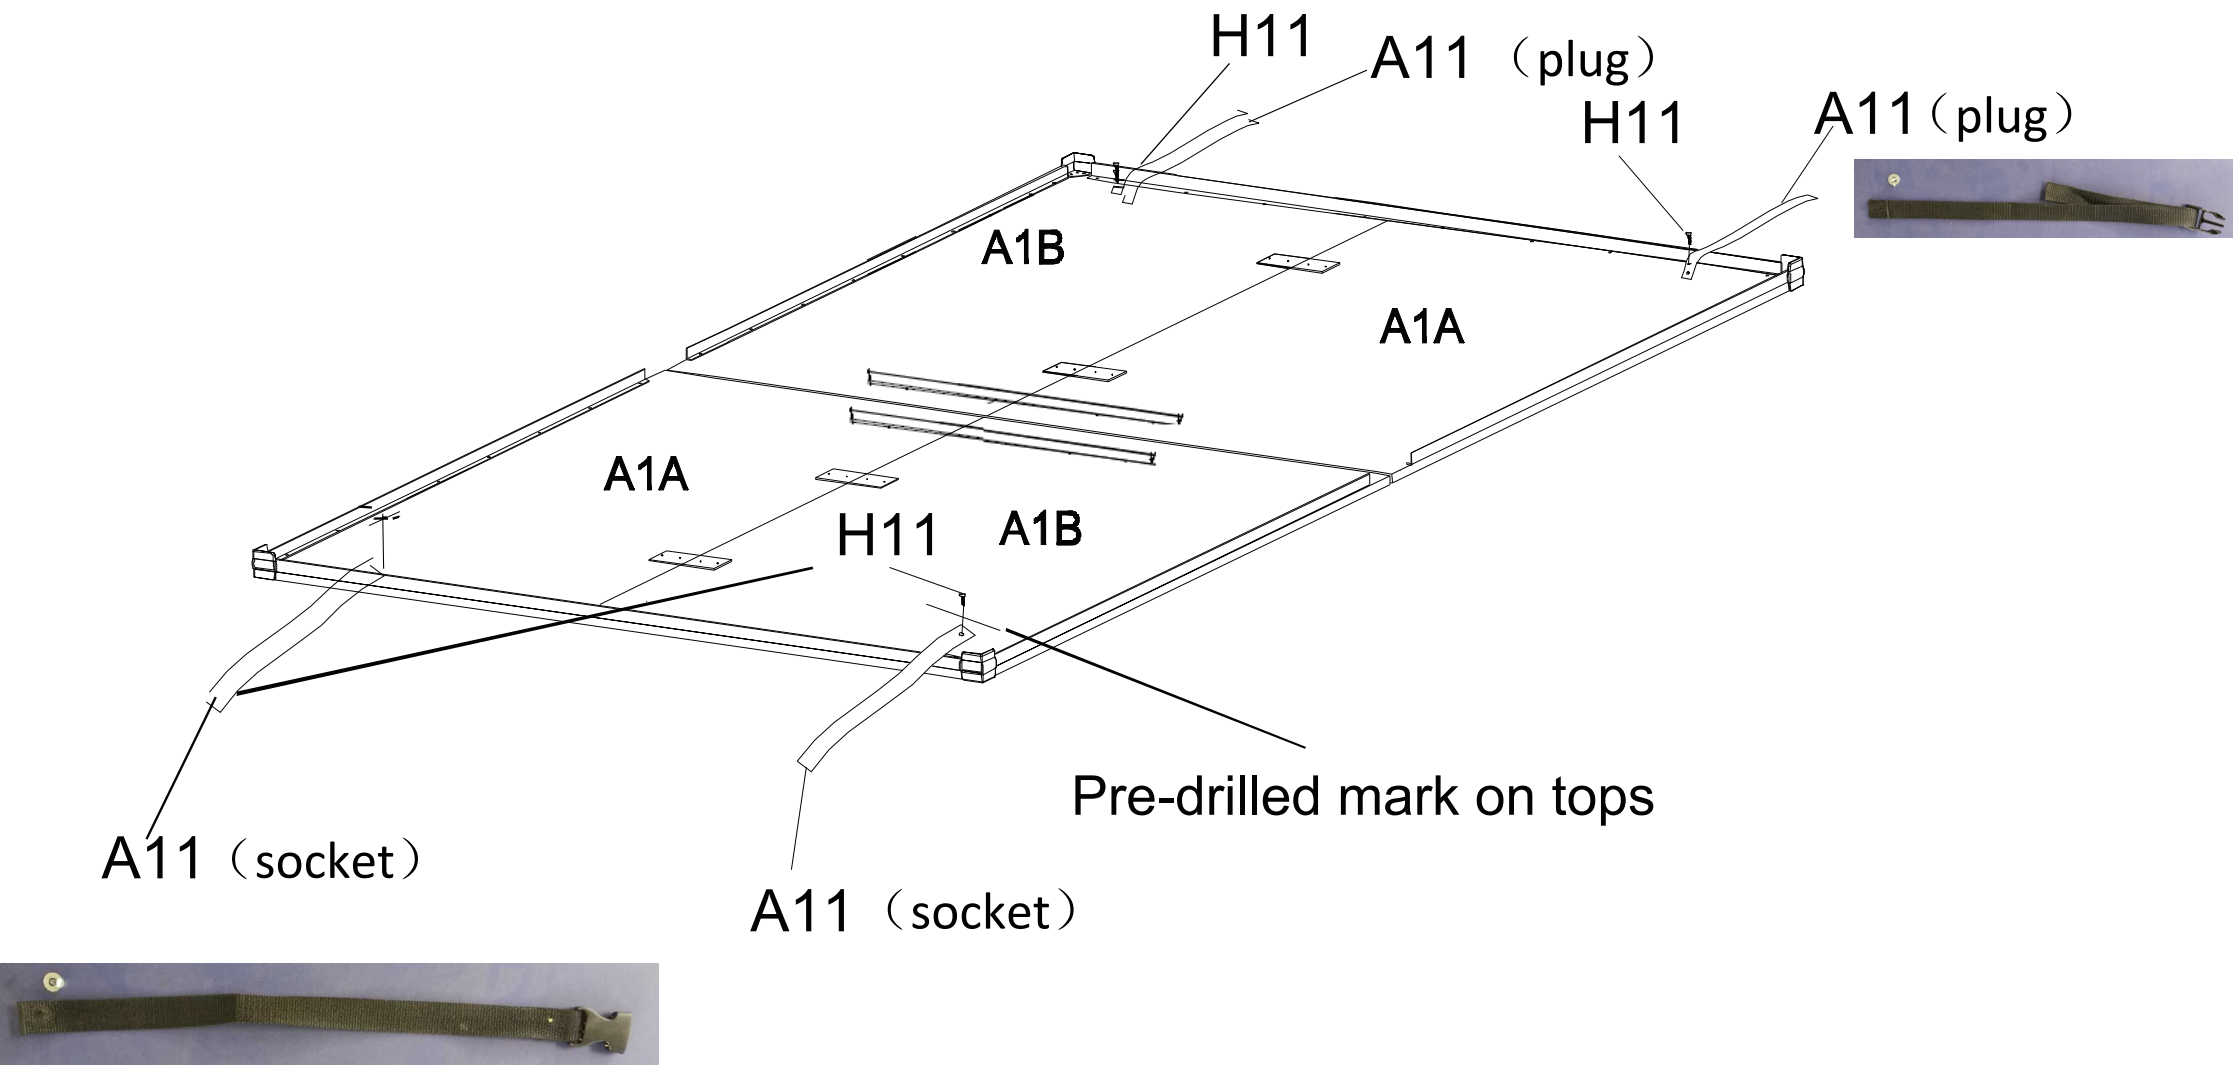

FIGURE 5
STEP 5: Attach buckle A11 to the edges of A1A & A1B and secure with screws H11 as shown in FIGURE 5. HINT: See pre-drilled mark for attaching buckle A11 onto tops.